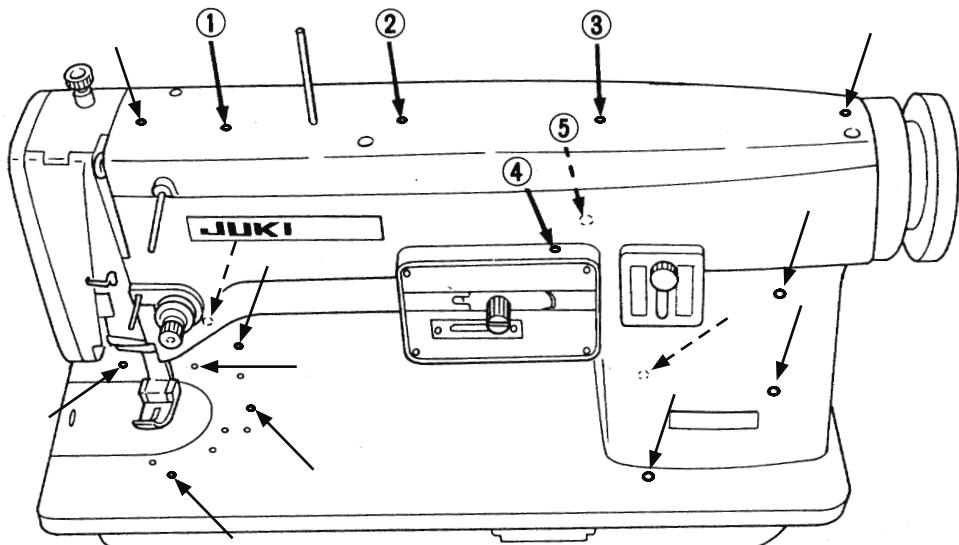

Fig. 9 Showing oiling holes
First, oil all the holes marked in red color at least one to two drops every day. (Arrows in Fig. 9). On the holes marked by heavy arrows ① ② ③ ④ ⑤, oil 5~6 drops before operating the machine. These holes have oil reservoirs and designed to supply oil to all essential frictional parts. (The dotted arrows in Fig. 9 mean oiling holes on the other side of the machine which cannot be seen from this side)